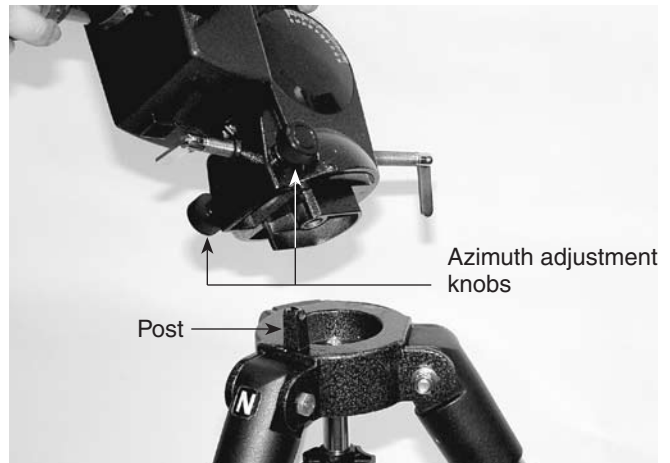
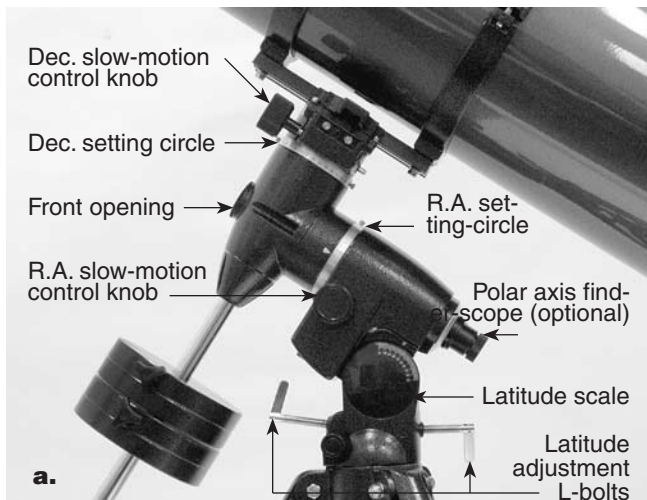

Figure 2. Orient the equatorial mount so that the post on the tripod head lines up with the azimuth adjustment knobs on the equatorial mount.
Figure 4. The SkyView Pro Equatorial Mount, shown from both sides.
2. Place the base of the equatorial mount onto the tripod head. Orient the equatorial mount so that the post on the tripod head lines up with the azimuth adjustment knobs on the equatorial mount (Figure 2). You may need to loosen the azimuth adjustment knobs on the equatorial mount in order to fit the mount onto the tripod head.
When you look at the night sky, you no doubt have noticed that the stars appear to move slowly from east to west over time. That apparent motion is caused by the Earth's rotation (from west to east). An equatorial mount (Figure 4) is designed to compensate for that motion, allowing you to easily "track" the movement of astronomical objects, thereby keeping them from drifting out of your telescope's field of view while you're observing.
2. There are two latitude adjusting L-bolts (see Figure 4); loosen one while tightening the other. By doing this you will adjust the latitude of the mount. Continue adjusting the mount until the pointer on the latitude scale is set at the latitude of your observing site. If you don't know your latitude, consult a geographical atlas to find it. For example, if your latitude is 35° North, set the pointer to 35. The latitude setting should not have to be adjusted again unless you move to a different viewing location some distance away.
3. Loosen the Dec. lock lever and rotate the telescope's optical tube until it is parallel with the right ascension axis, as it is in Figure 4.
3. Remove the cap on the front opening of the mount (Figure 4). Focus the polar finder by rotating its eyepiece. Now, sight Polaris in the polar axis finder scope. If you have followed the approximate polar alignment procedure accurately, Polaris will probably be within the field of view. If not, move the tripod left-to-right, and adjust the latitude up-and down until Polaris is somewhere within the field of view of the polar axis finder scope.
5. Now use the azimuth adjustment knobs (Figure 2) and the latitude adjustment L-bolts (Figure 4) on the mount to position the star Polaris inside the tiny circle marked "Polaris" on the finder's reticle. You must first loosen the knob underneath the equatorial mount on the center support shaft to use the azimuth adjustment knobs. Once Polaris is properly positioned within the reticle, you are precisely polar aligned.
1. Loosen the Dec. lock lever and position the telescope as accurately as possible in declination so it is parallel to the R.A. axis, as shown in Figure 4. Re-tighten the lock lever.